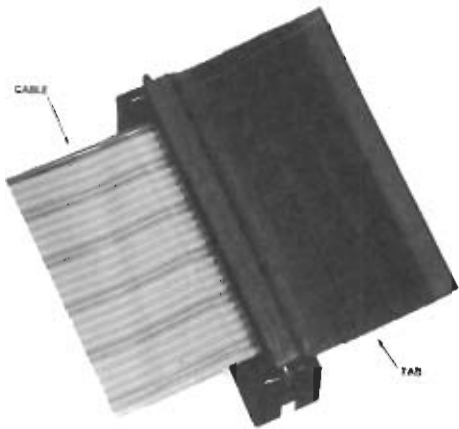

Figure 3.8 PULL TAB ON PROGRAMMER CABLE
- 30. If the programmer is to be used with the 5' (1.5m) extender cable (catalog no. IC610CBL100), it can be installed next, or when required. One end of the cable has a pull tab (see Figure 3.8). This end is connected to the programmer. The other end is connected to the 26-pin connector on the Series One Junior basic unit. Both ends are keyed for proper installation. The red edge of the ribbon cable is installed up at both ends.